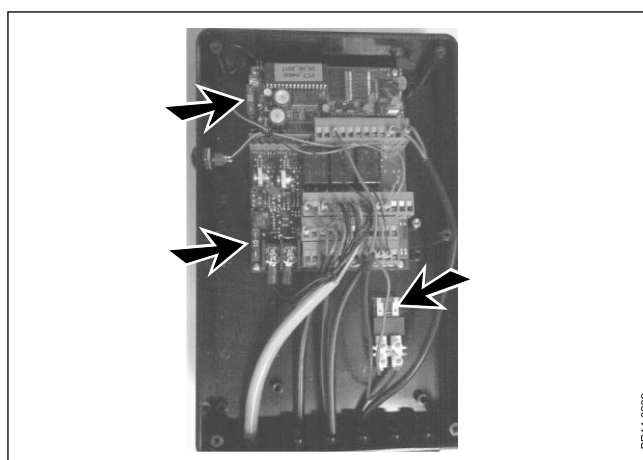

Fig. 7-6
**Fig. 7-6** There are two 10 A fuses and one 5 A fuse in the MD control unit. The fuses must only be replaced with fuses with the same rating. With the exception of the replacement of fuses, servicing must only be carried out by an authorised KONGSKILDE retailer/Service technician.